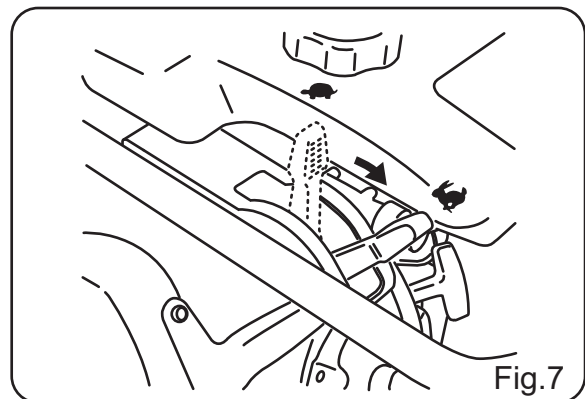

Fig.7
- 1 Shift the throttle lever from idle (☛) to the operating position (☞) (Figure 7) and the tamping rammer will start vibrating. Shifting the lever slowly will cause irregular operation and damage the clutch, springs, and foot.